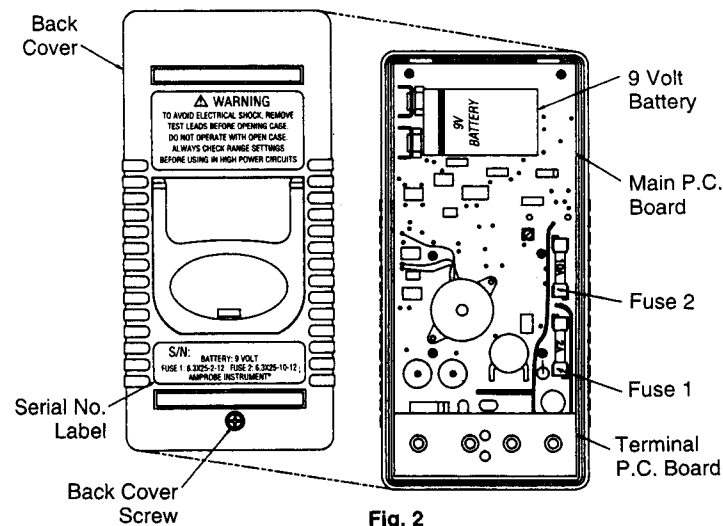

Fig. 2
3. Replace fuse or battery as needed. When the back of the instrument is viewed with the cover off, the fuse that protects the mA ranges is located on the right side, near the 10A input jack. The fuse that protects the 10A range is located on the right side, further away from the input jacks. See figure 2.